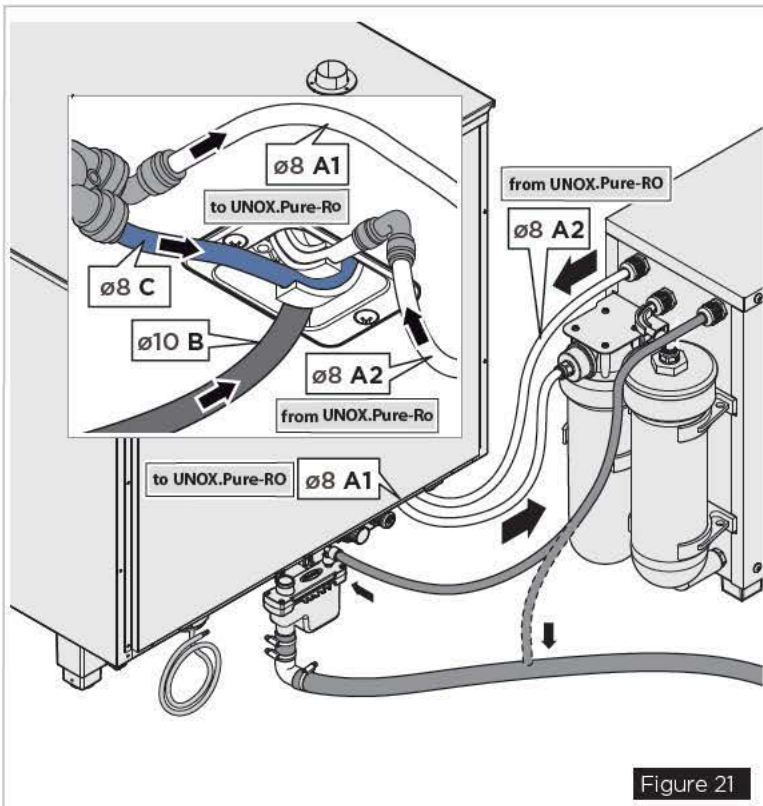

Figure 21
- **UNOX.Pure-RO** (reverse osmosis kit, see Figure 21);